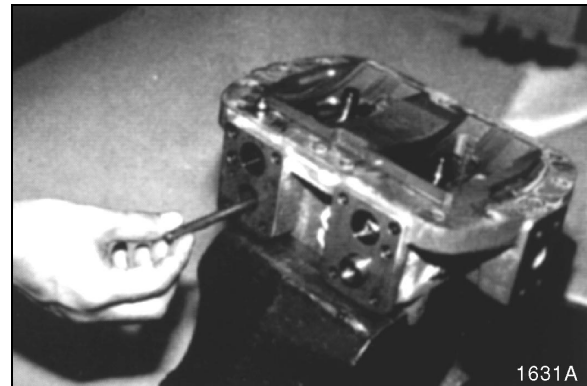

Figure 38
10. Remove rod. See Figure 38.